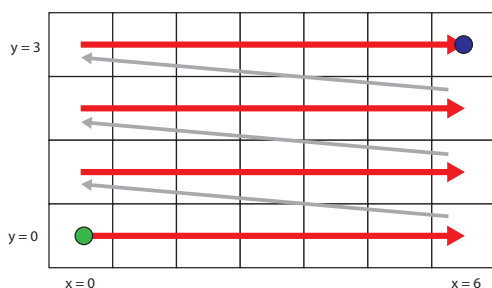

Figure 5.3: The ‘standard’ mode.
The most basic mode is the ‘standard’ mode. Fig. 5.3 shows how the standard mode measures the map  $z(x, y)$ . In this example, we have chosen for  $x = \text{np.linspace}(0, 6, 7)$  and  $y = \text{np.linspace}(0, 3, 4)$ . We start at the green dot and measure  $z(0, 0)$ . Then, we follow the red line, which denotes a *sweep* being performed. Hence, we measure  $z(1, 0), z(2, 0), \dots, z(6, 0)$ . Then, we *move*  $x$  back to its first value (0) and *move*  $y$  to its second value (1). This is denoted by the grey arrow. Now, we sweep  $x$  for  $y = 1$ , move, sweep, etc., until we end up at the blue dot.